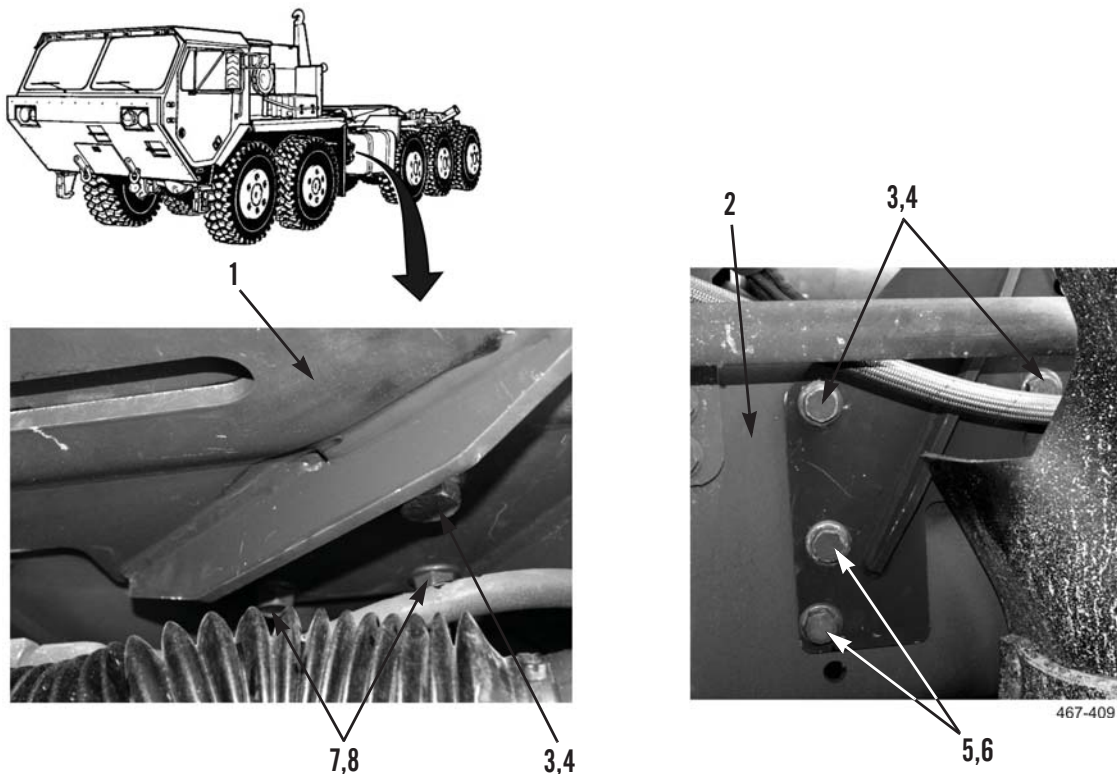

Figure 21. PLS Left-Side Stowage Bracket Information.
1. Install left-side stowage assembly support bracket (Figure 21, Item 1), three bolts (Figure 21, Item 3), and nuts (Figure 21, Item 4) on frame (Figure 21, Item 2).
2. Install two bolts (Figure 21, Item 5) and nuts (Figure 21, Item 6) on frame (Figure 21, Item 2).
3. Install two bolts (Figure 21, Item 7) and nuts (Figure 21, Item 8) on frame (Figure 21, Item 2).